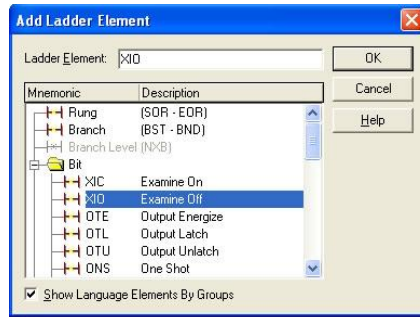

Figure 52: Adding an XIO Element
- Select the "XIO" element in the Bit folder. Refer to Figure 52.